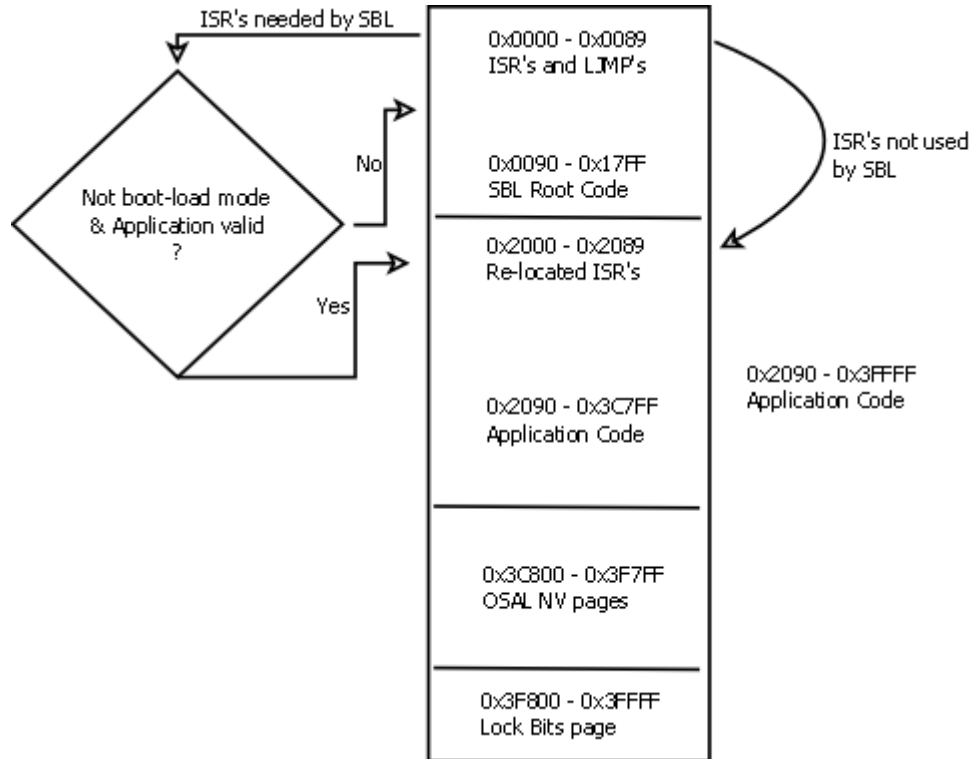

Figure 1: Architectural Placement of the SBL & SBL-compatible Z-Stack image.
1. The image to be loaded via SBL must conform to a flash memory mapping compatible with the serial boot loader. Compatibility includes flash memory usage and ISR vector relocation (see Figure 1.)